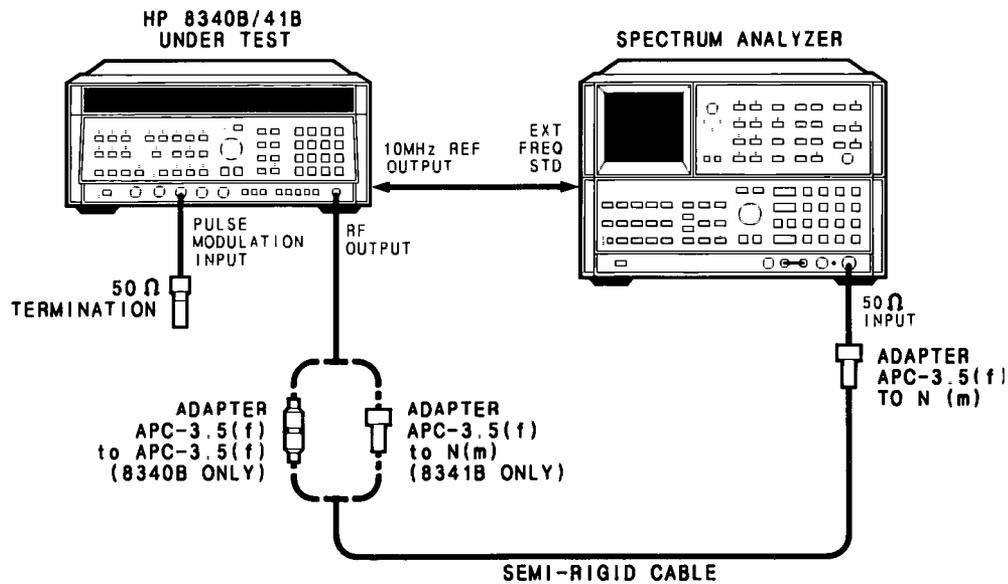

Figure 4-11. Pulse Modulation ON/OFF Ratio Test Setup
1. Connect equipment as shown in Figure 4-11. Allow a one hour warm up time.
4. Press the DUT's **[PULSE]** key (ON). The spectrum analyzer marker delta amplitude level should be greater than 80 dB.